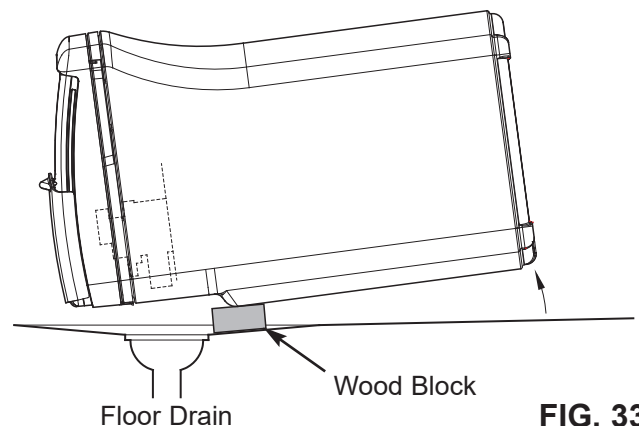

FIG. 33
6. Lay a piece of 2 inch thick board near the floor drain (See Figure 33).